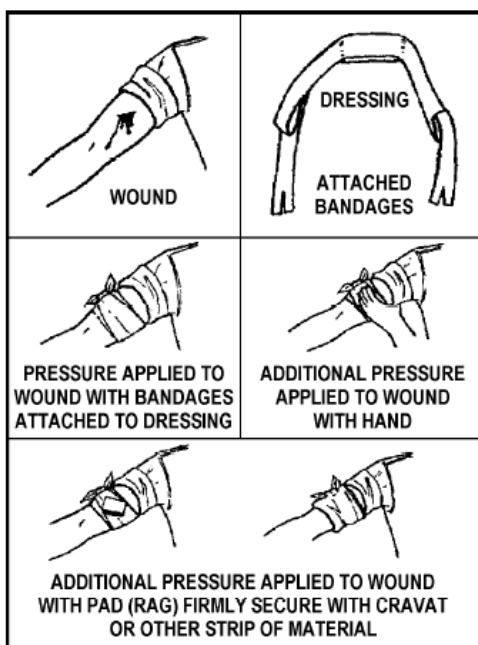

Figure 16-1. Application of a pressure dressing.
- Apply a pressure dressing (Figure 16-1).